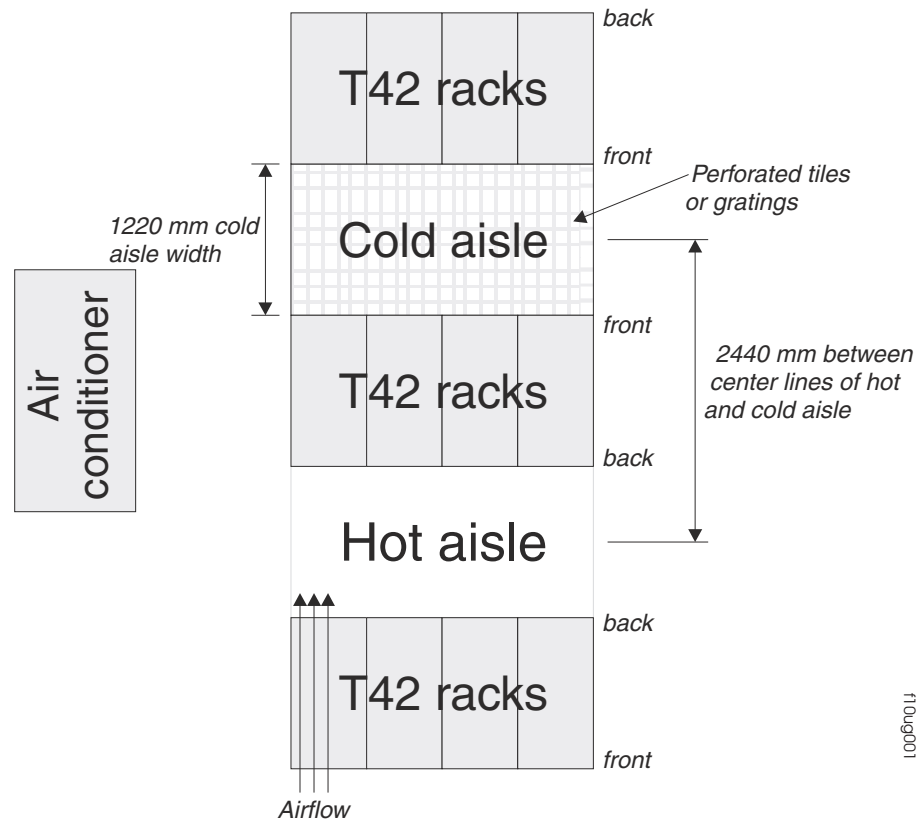

Figure 13. Example of cold aisle/hot aisle rack cabinet configuration
- Air enters at the front of the rack cabinet and leaves at the back. To prevent the air that is leaving the rack cabinet from entering the intake of another piece of equipment, you must position the rack cabinets in alternate rows, back-to-back and front-to-front. This arrangement is known as *cold aisle/hot aisle* and is shown in Figure 13 on page 33.